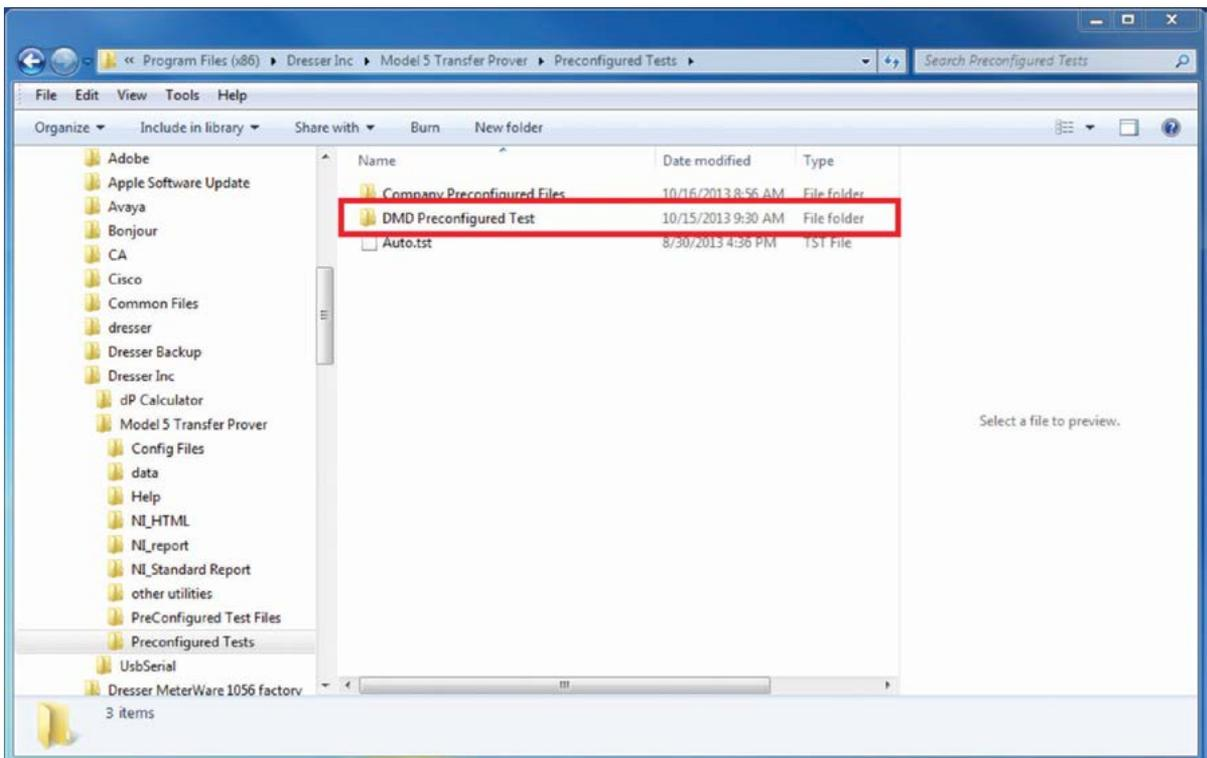

Figure 15: View Preconfigured Test Folders
15. Within “Preconfigured Tests”, the files and folders visible should match the files and folders typically seen when selecting to run a preconfigured test from the Prover software. Refer **Figure 94** for reference window and **Figure 15**.